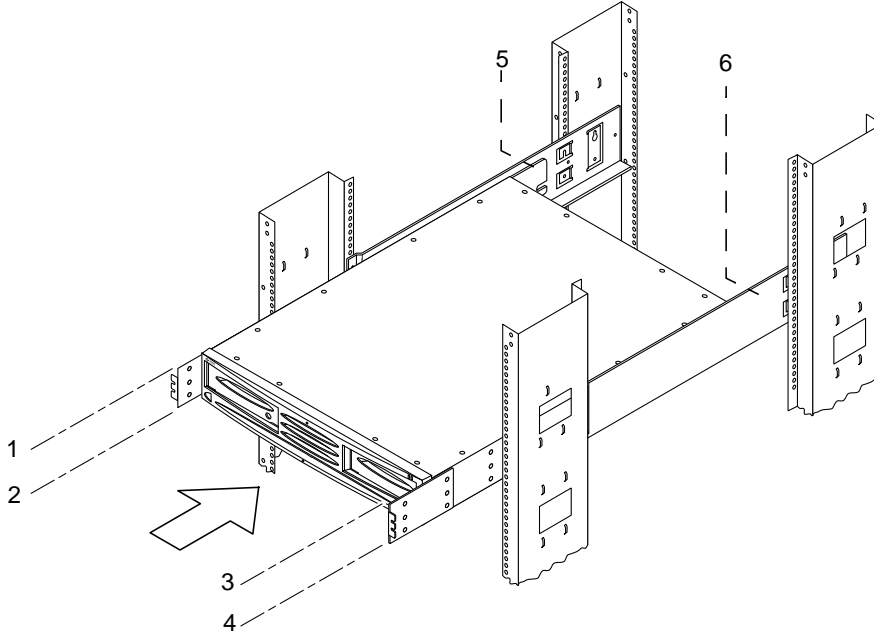

FIGURE 2-10 Sliding the Media Tray Into the Mounting Rails
10. Slide the media tray into the two rails until the mounting ears are fully seated against the front of the rack as shown in FIGURE 2-10.